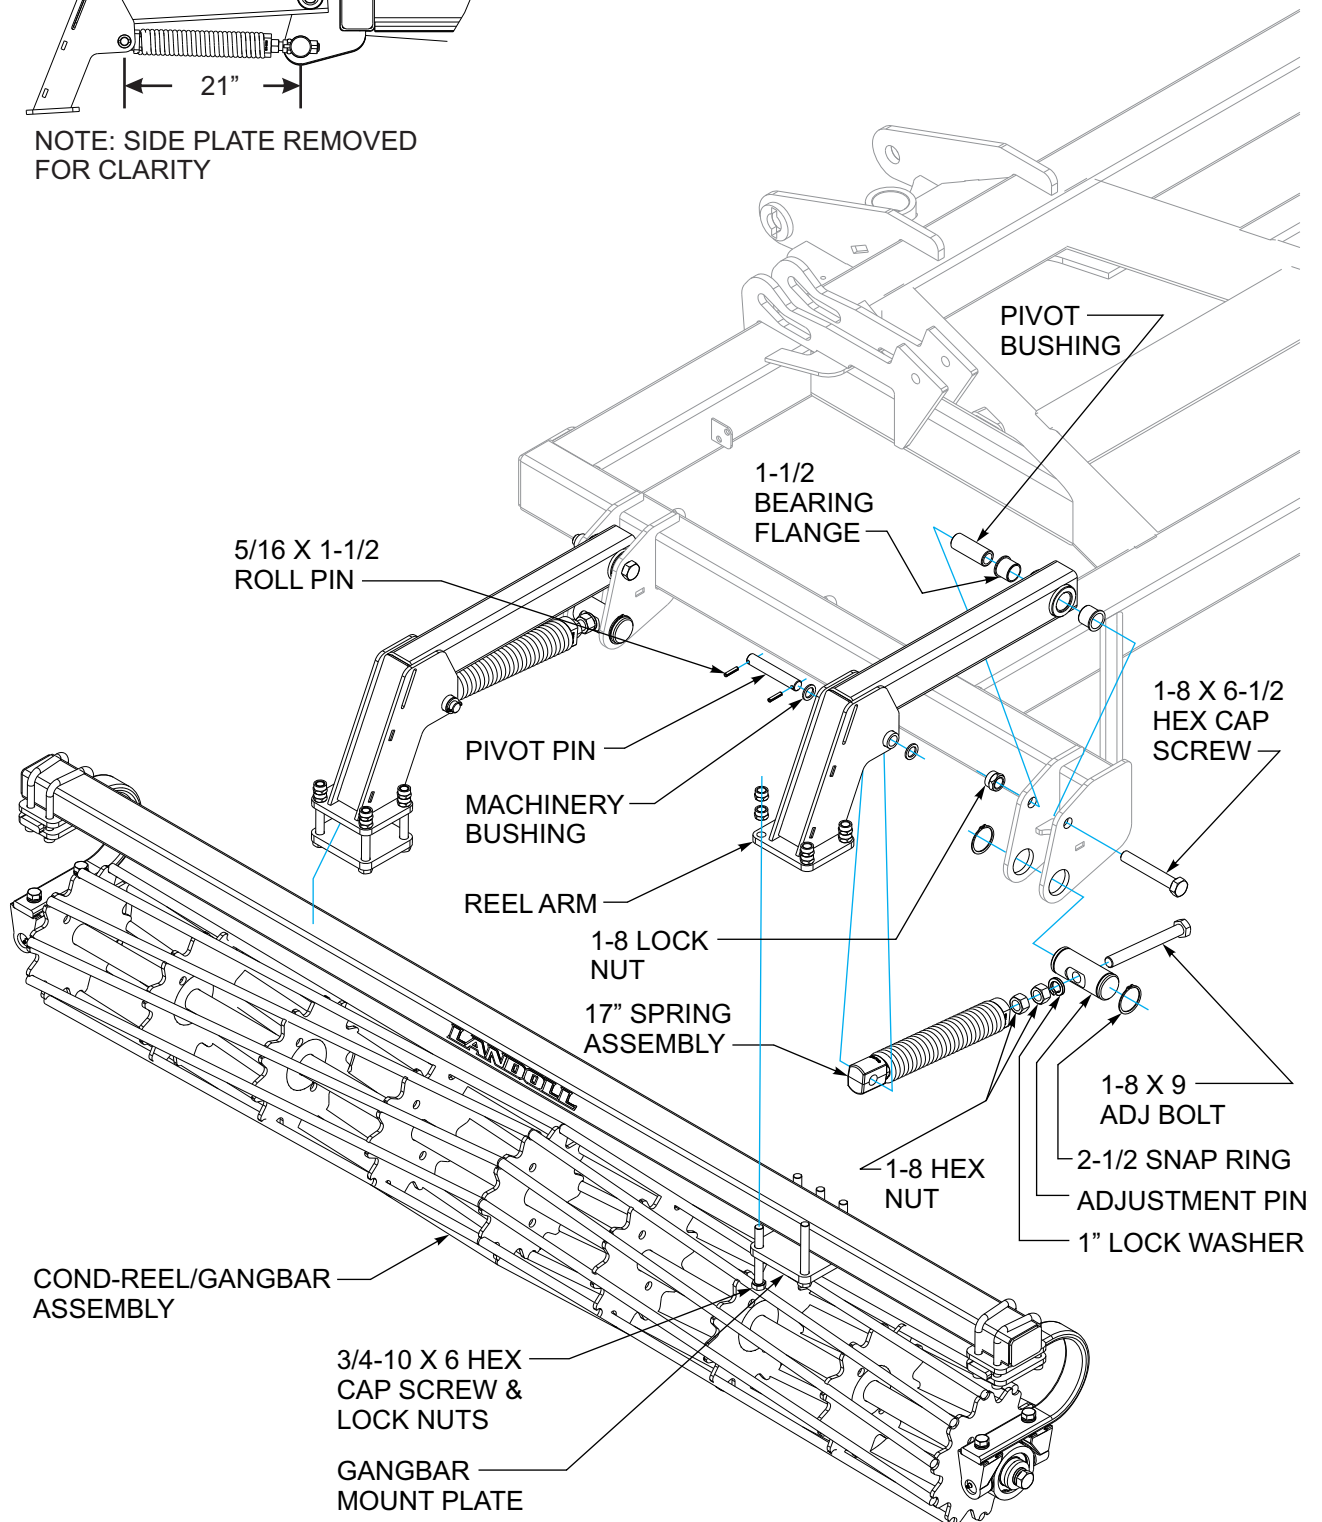
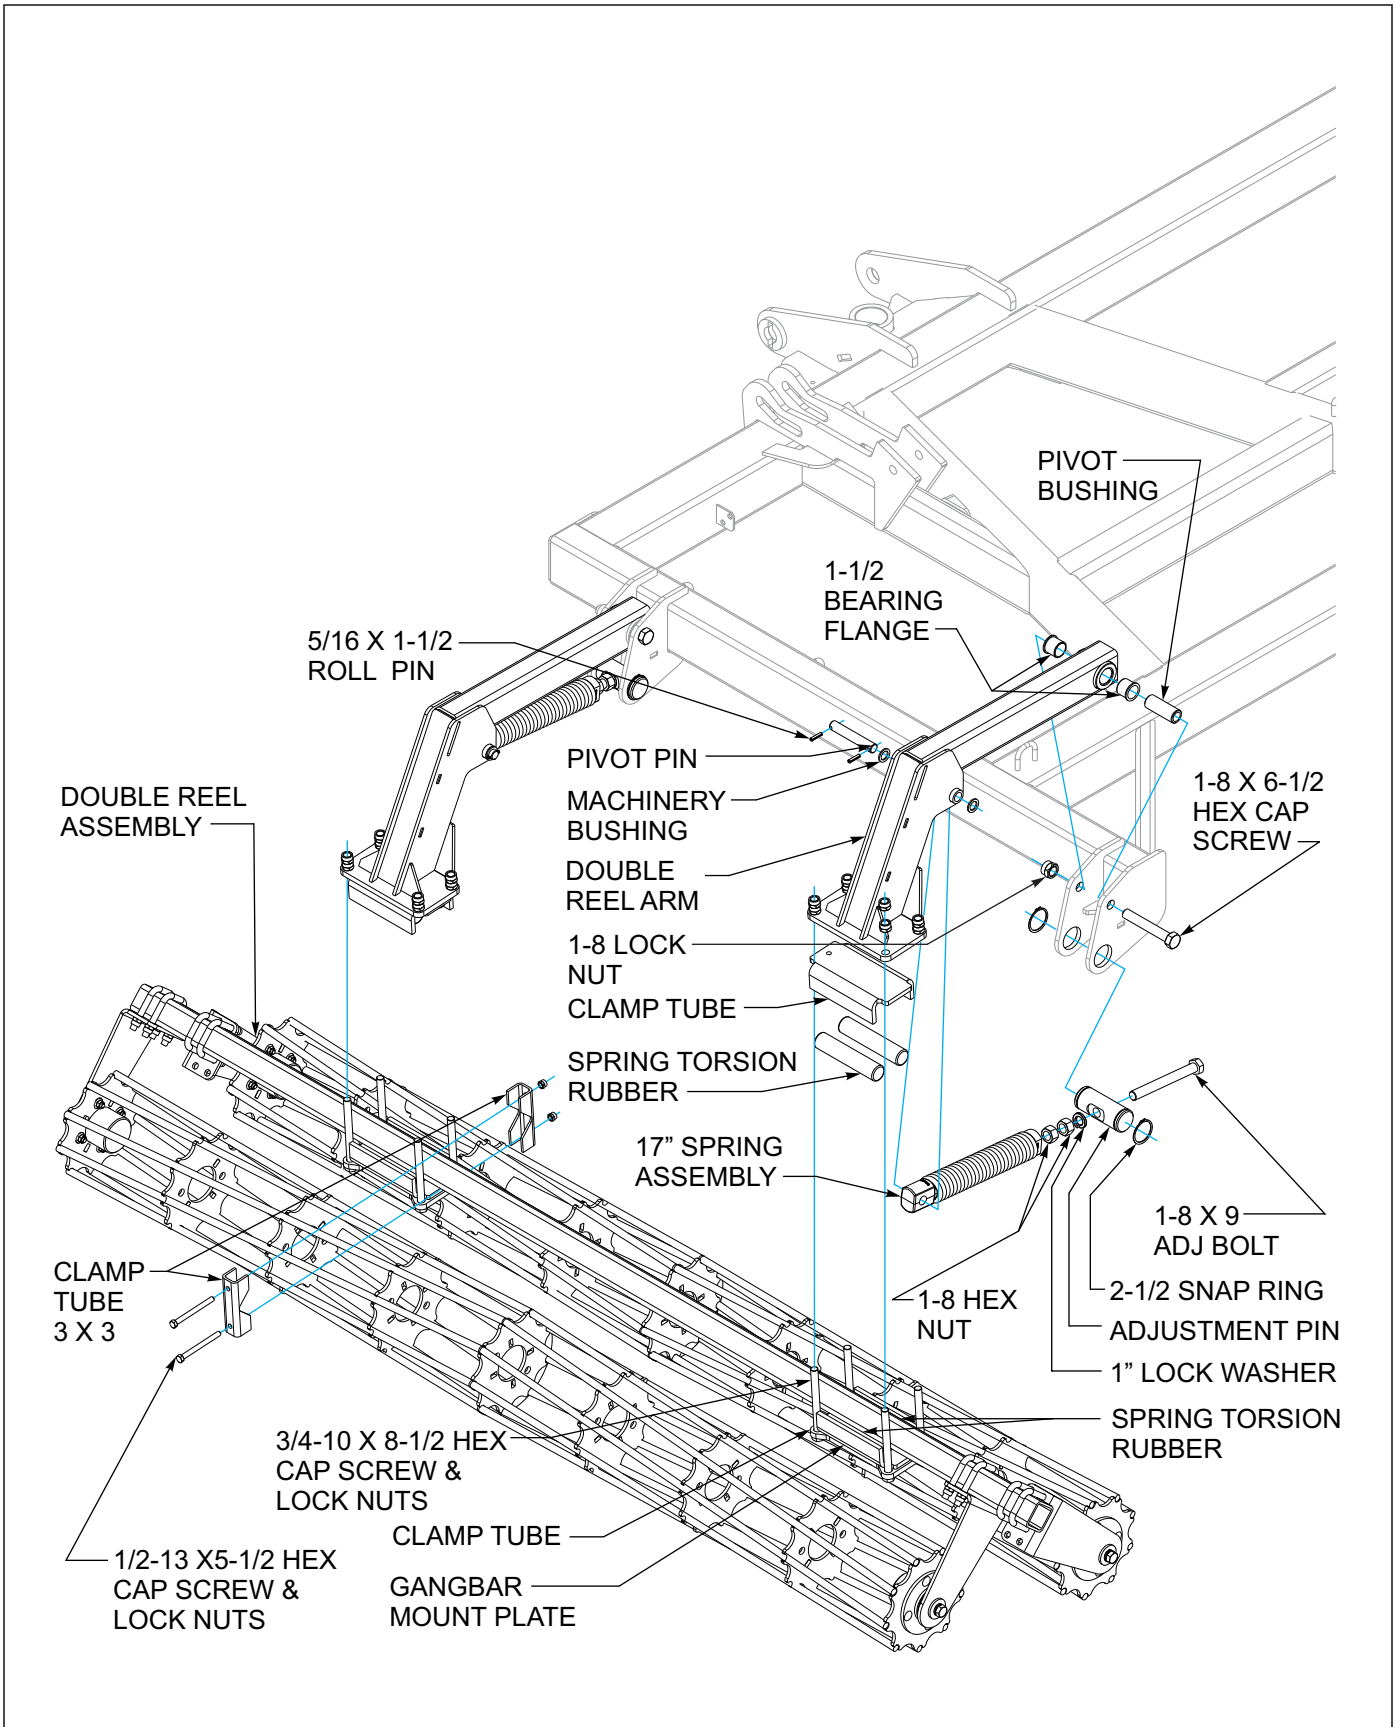
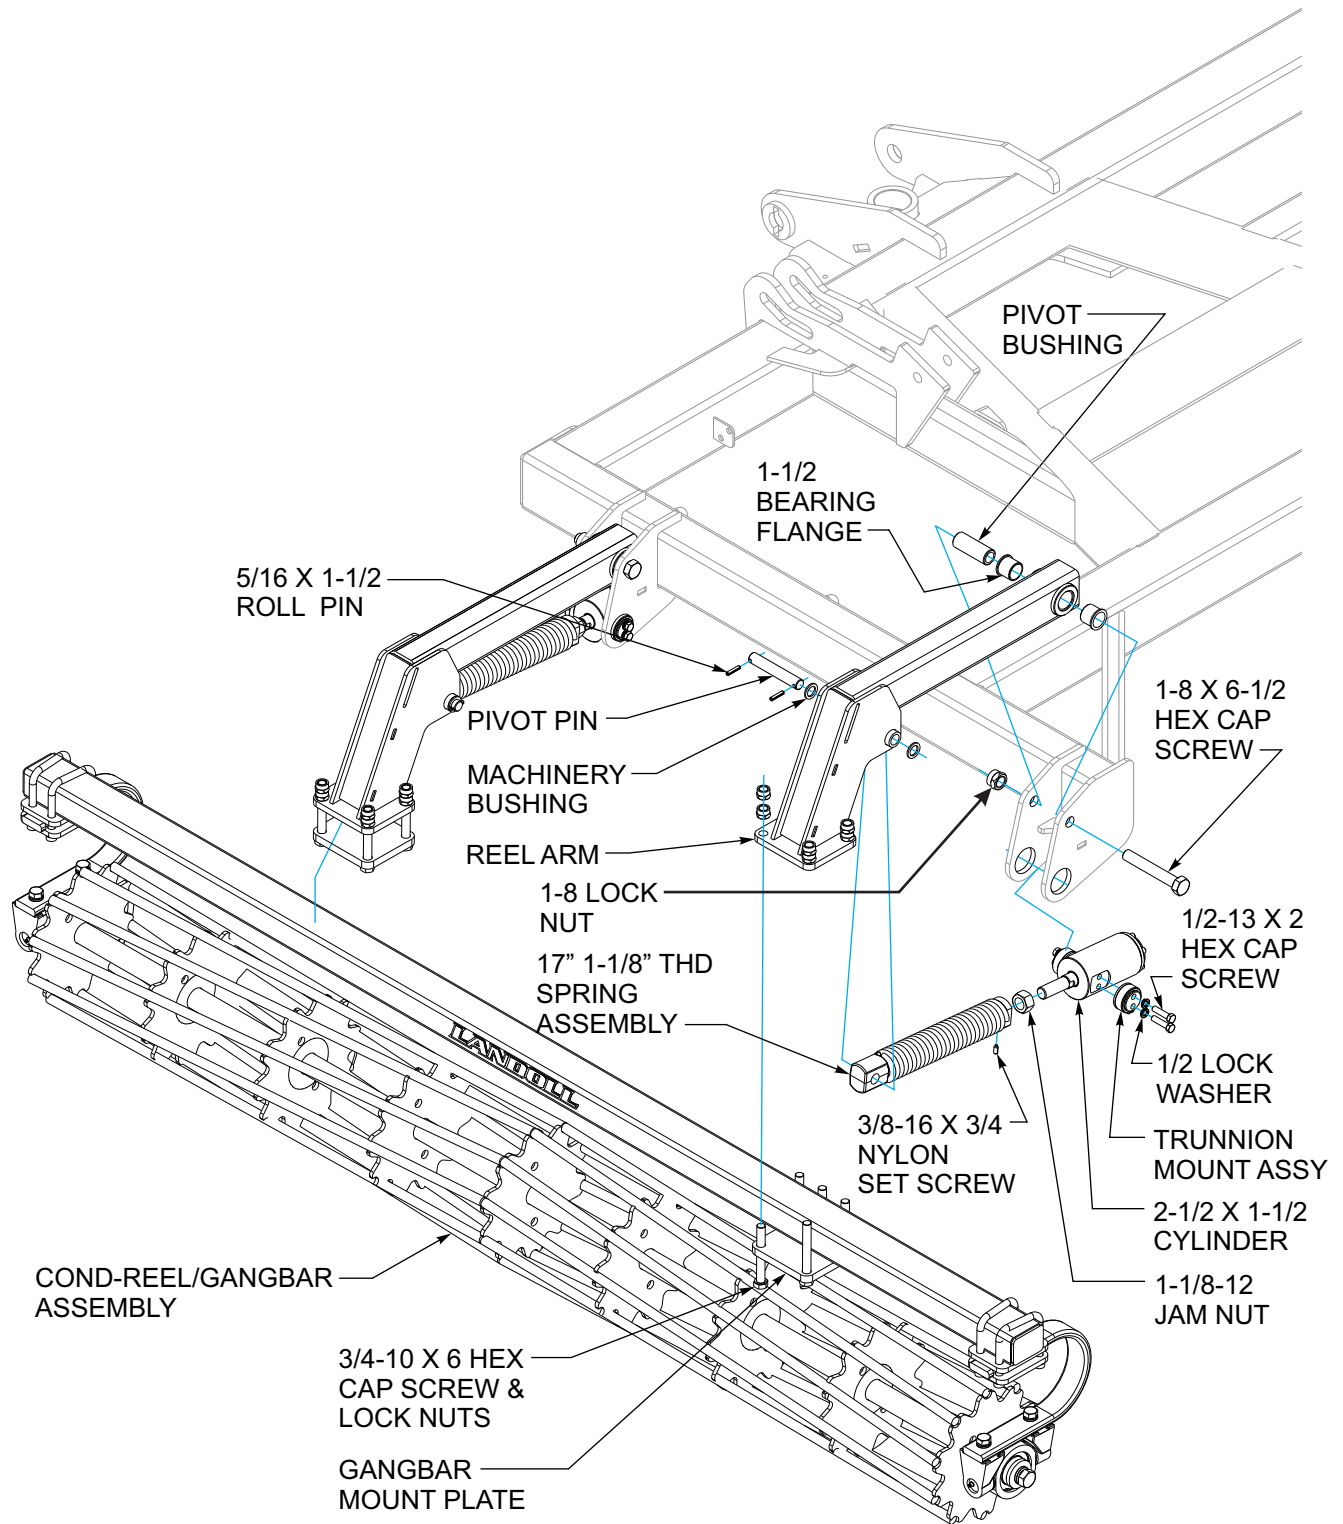
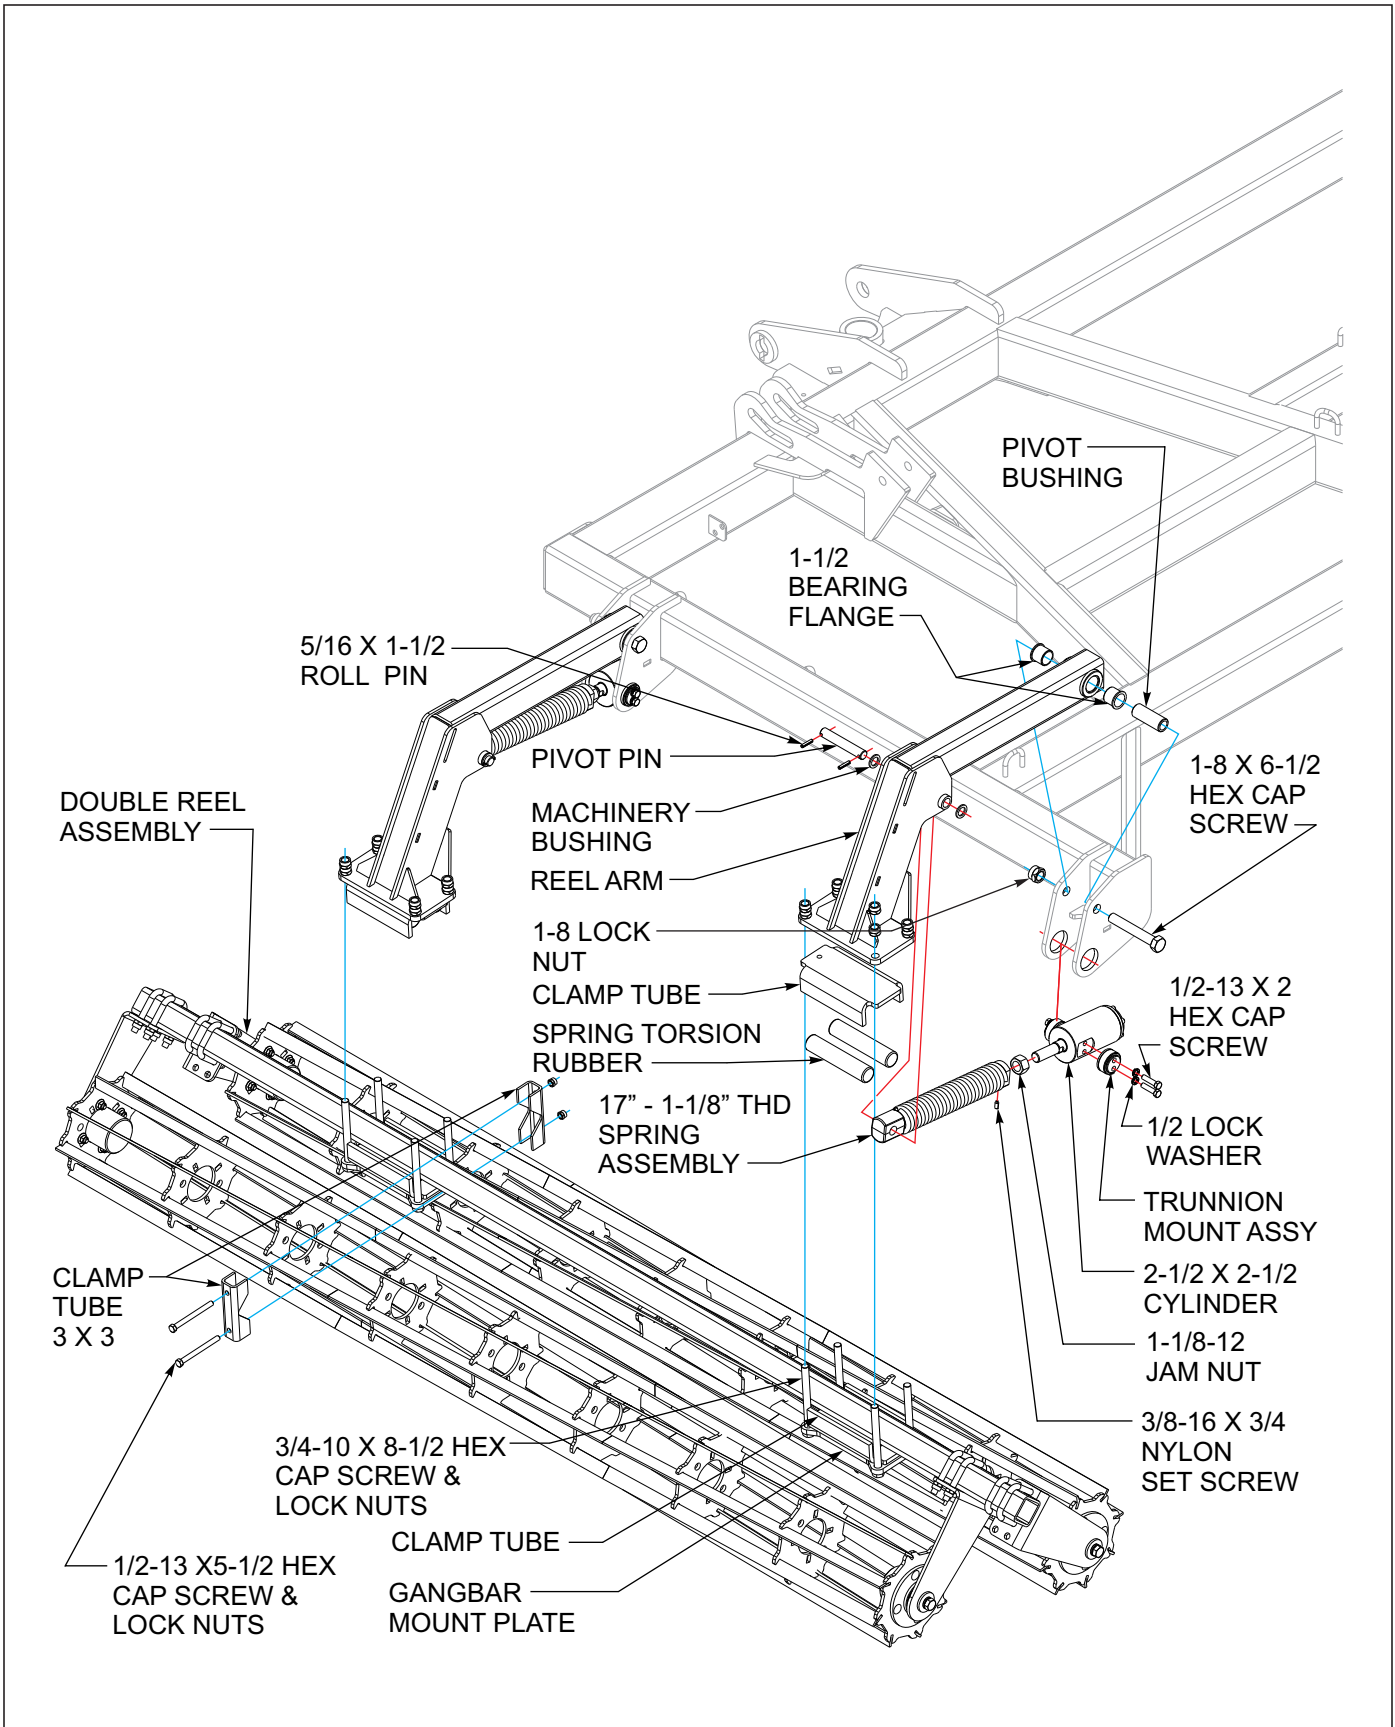

Figure 3-44: Conditioner Single Reel Installation 7530-23'-35'
Figure 3-45: Conditioner Double Reel Installation 7530-23'-32'
Figure 3-46: Hydraulic Conditioner Reel Single Installation 7530-23' - 35'
Figure 3-47: Hydraulic Conditioner Double Reel Installation 7530-23' - 35'
Refer to *Conditioner Single Reel Installation* shown in **Figure 3-44** for single reel installation or *Conditioner Double Reel Installation* shown in **Figure 3-45** for double reel installation.
1. Slide the adjustment pin through the rear plates of center and wing frames, secure with (2) 2-1/2 snap rings.
2. Assemble the 1-8 x 9 adj bolt through adjustment pin on frame, 1" lock washer, (2) 1-8 hex nuts, and 17" heavy spring assembly.
5. Assemble 17" heavy spring assembly to reel arm using 1" pivot pin, and 5/16 x 1-1/2" spring slotted pins. Set pin centers to 21" dimension as shown in **Figure 3-44**.
6. Attach single reel/gang bar assembly to reel arms using gang bar mount plate, 3/4-10 x 6 hex head cap screws and double hex lock nuts as shown in **Figure 3-44**. Refer to **pages 2-11 thru 2-14** for single reel gang bar placement locations.
7. Attach double reel/gang bar assembly to reel arms using gang bar mount plate, (2) clamp tubes, (4) spring torsion rubber, secure with 3/4-10 x 8-1/2 hex head cap screws and double hex lock nuts as shown in **Figure 3-45**. Refer to **pages 2-19 thru 2-26** for single reel gang bar placement locations.
Refer to *Hydraulic Conditioner Single Reel Installation* shown in **Figure 3-46** for single reel installation or *Hydraulic Conditioner Double Reel Installation* shown in **Figure 3-47** for double reel installation.
The 209666 (7530-32' hydraulic double round reel), 209676 (7530-32' hydraulic flat reel), 212043 (7530-35' hydraulic double round reel) and 212045 (7530-35' hydraulic flat reel) on center section uses two of the *Hydraulic Conditioner Double Reel Installation* arm assemblies, Refer to **Figure 3-46** and one *Conditioner Double Reel Installation* arm assembly in center position, Refer to **Figure 3-45**. for arm assemblies. Refer to **Figure 2-22** and **2-23** for proper arm placement.
3. Attach single reel/gang bar assembly to reel arms using gang bar mount plate, 3/4-10 x 6 hex head cap screws and double hex lock nuts as shown in **Figure 3-46**. Refer to **pages 2-11 thru 2-14** for single reel gang bar placement locations.
4. Attach double reel/gang bar assembly to reel arms using gang bar mount plate, (2) clamp tubes, (4) spring torsion rubber, secure with 3/4-10 x 8-1/2 hex head cap screws and double hex lock nuts as shown in **Figure 3-47**. Refer to **pages 2-19 thru 2-26** for single reel gang bar placement locations.
5. Install (2) clamp tubes on front and back of double gang bar, secure with 1/2-13 x 5-1/2 hex cap screws and 1-2 lock nuts. Refer to **pages 2-19 thru 2-26** for clamp tube locations. Each set (2 total) should be slid against gangbar mount plate on outside of inner wing arm assemblies.